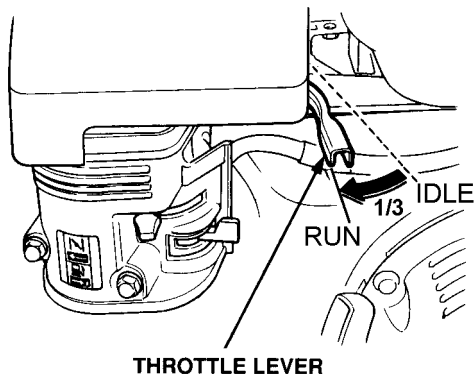

Figure 8. Throttle Lever (1/3 Start Position)
2. Move the throttle lever (Figure 8) away from the slow position, about 1/3 of the way toward the fast position